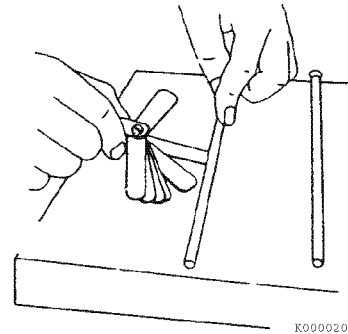

Figure 6-51
3. Use a feeler gauge to measure the gap (**Figure 6-51**). See *Push Rod* on page 6-7 for the service limit.